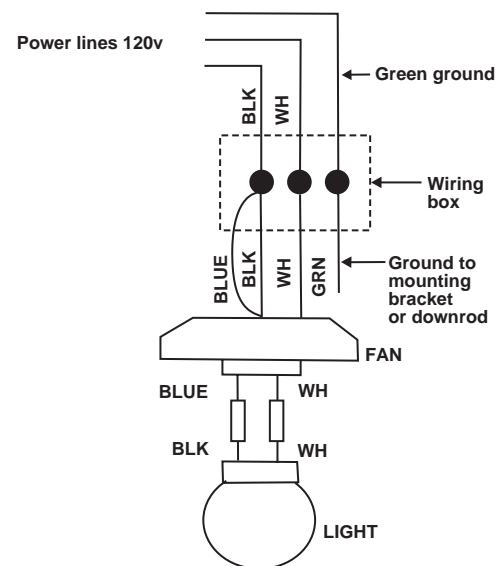

Fig. 15
Step 1 Connect the fan supply (black) wire and light supply (blue) wire to the black household supply wire as shown in Figure 15.